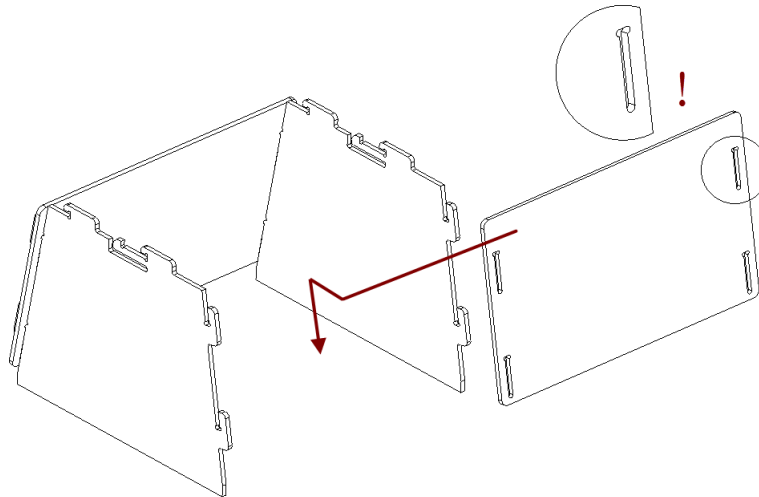

Figure 143: Assembling the back wall.
2. Install the back wall in the same way (see Figure 143).